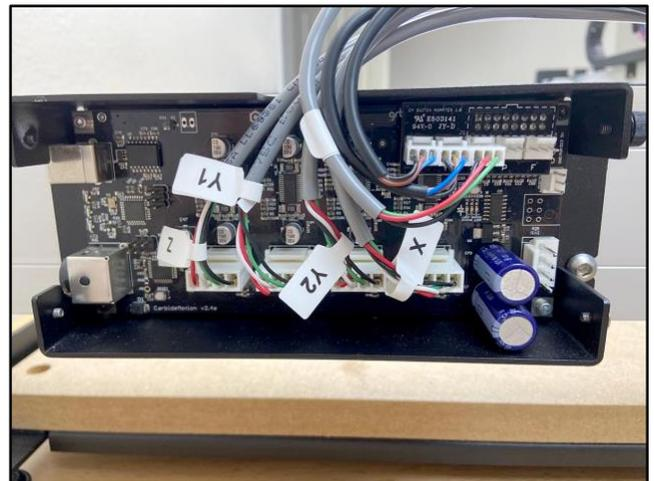

Figure 31
1. Plug the PCB riser board into the Carbide Motion board. See **Fig. 31**.
2. Plug the proximity switch cables and stepper motor extension cables into the Carbide Motion board. See **Fig. 31**.